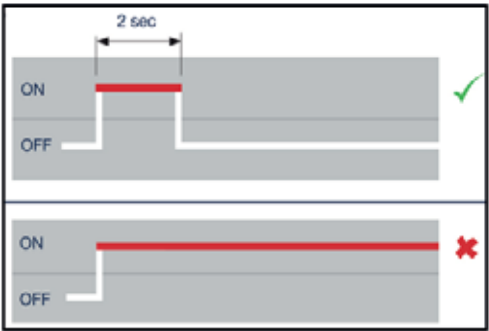

Figure 2
1. When the ignition is turned on the warning light on the driver's console shows the following flash sequence (Figure 2), to indicate an error free system: